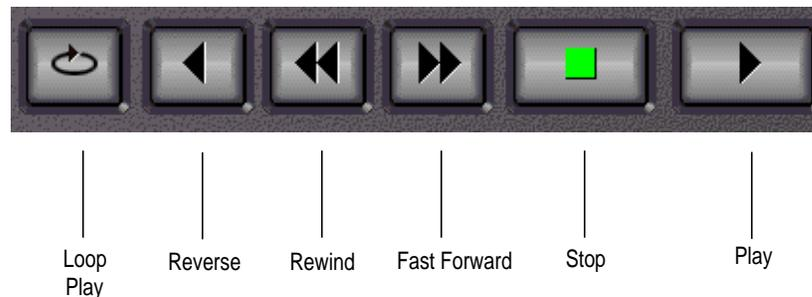

Figure 114. Transport controls
5. When you are done recording, click on the **Stop** button. (See Figure 114)